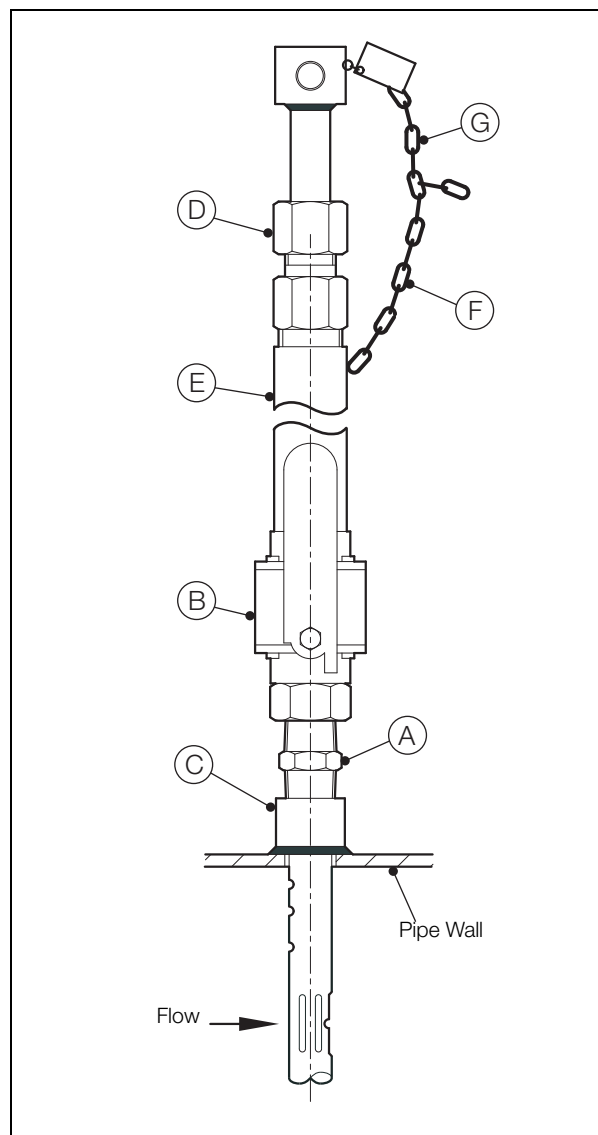

Fig. 2.10 Installation of Threaded Models FPD350.L6.E1 and FPD350.L7.E1
5. Referring to Fig. 2.10:
- a. Apply suitable sealant to the close nipple (A) and isolation valve (B) and fit them to the threaded fitting (C). Tighten securely.
- b. Attach hot-tap drilling equipment to isolation valve (B) in accordance with the manufacturer's instructions.